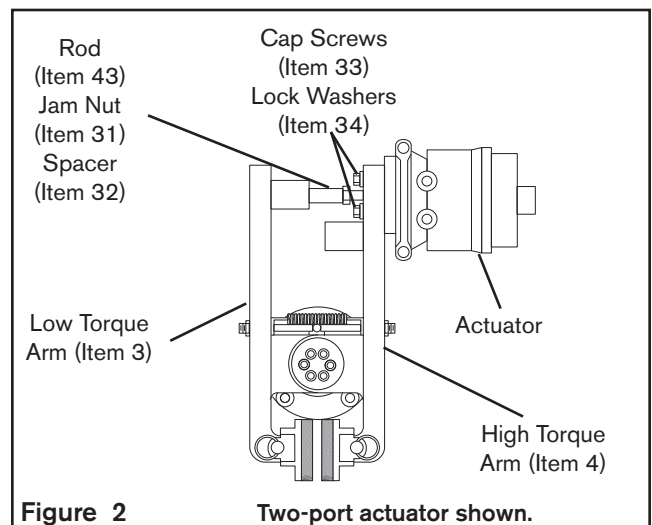

Figure 2
1. Insert the Rod (Item 43), Jam Nut (Item 31), and Spacer (Item 32) into the Actuator (See Figure 2).
Mount this assembly on either the Low Torque Arm (Item 3) or the High Torque Arm (Item 4) (See Figure 2).
2. Install the Cap Screws (Item 33) and the Lock Washers (Item 34) (See Figure 2).